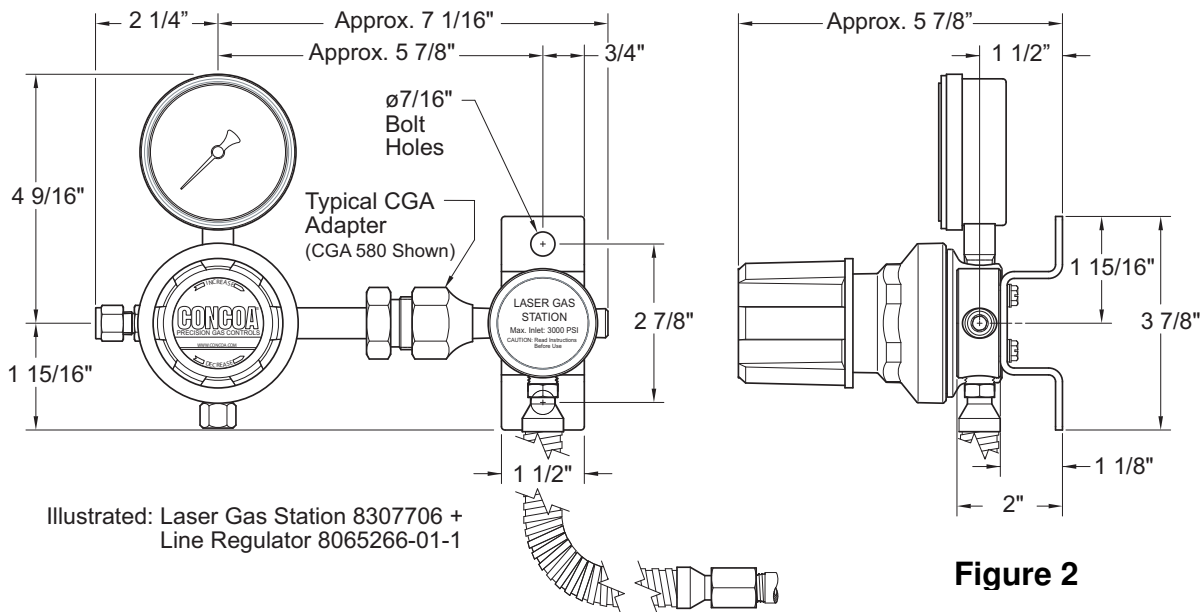

Figure 2
1. The Laser Gas Station shall be securely fastened to a wall using fasteners appropriate for the wall construction. Mounting dimensions are provided in Figure 2 and 3.